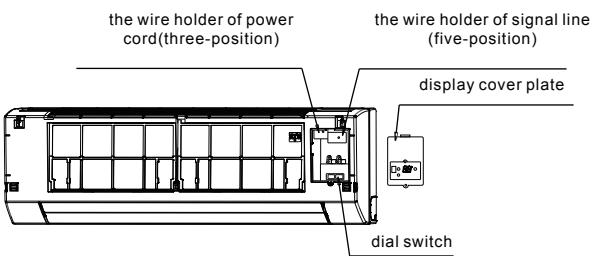

Fig.7-2
- Individual connect the power cord and signal line, adjust the dial switch.(Refer to Fig 7-2)